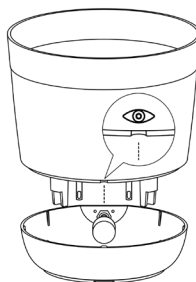

Figure 9
5. Place the upper part (the soil compartment) of the planter with the wicks in correct alignment on the water reservoir of the pot (see Fig. 9 for the example Boum Pot 13 L Pro). The soil container and reservoir should be flush.